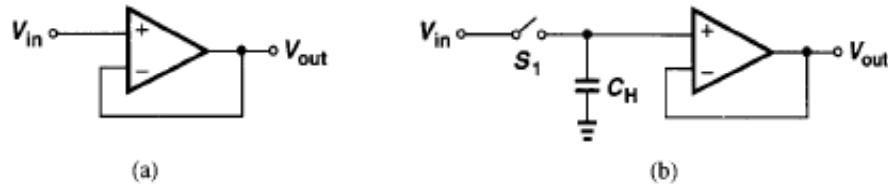

Figure 12.29 (a) Unity-gain buffer, (b) sampling circuit followed by unity-gain buffer.
- A unity gain amplifier can be realized with no resistors and capacitors in the feedback, but still requires a sampling circuit (Fig. 12.29 b))